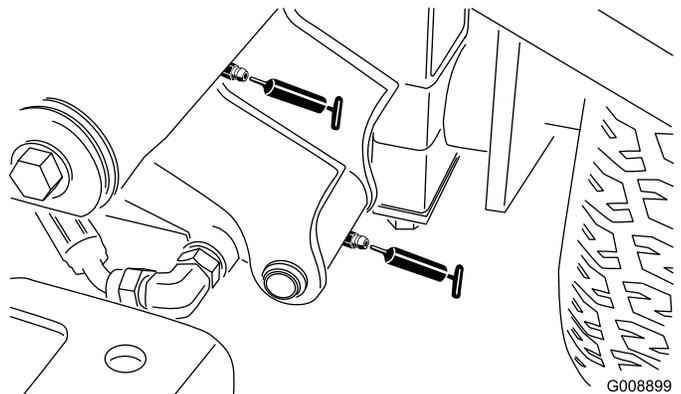

Figure 34
- Left front lift arm pivot and lift cylinder (2) (Figure 34)